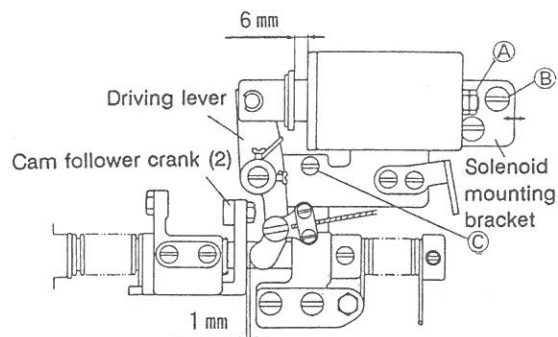
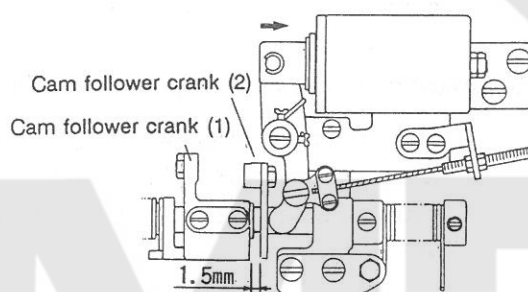

Fig. 8
Fig. 9
4.2.6 Installation of thread trimmer solenoid unit (Fig. 8)
(2) Installation of unit
- ① Install the unit with the screws ② and ③ shown in Fig. 8.
- ② Install the unit so that approximately 1 mm is provided between the driving lever and cam follower crank (2) with the stopper nut ① in contact with the solenoid.
- ③ When the solenoid is energized under this condition, clearance of 1.5 mm is provided between the cam follower cranks (1) and (2) as shown in Fig. 9. This is the standard installation status. Make adjustment by moving the solenoid mounting bracket in the arrow direction in Fig. 8.